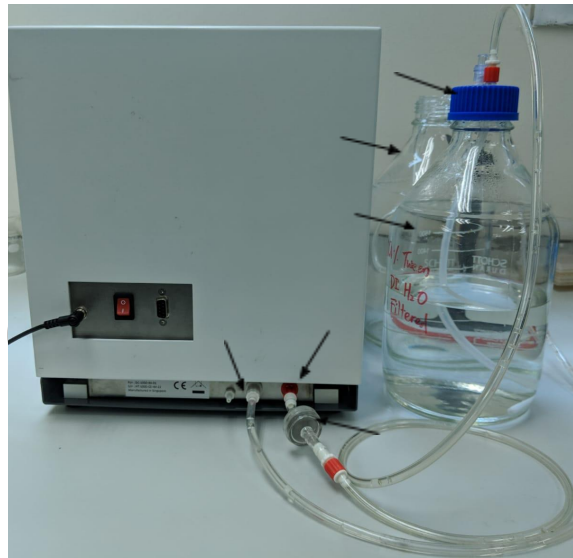

Figure 3-12: Installation Step 3.
16. Install a clean filter onto one end of the inlet tubing and insert into the red port on the HT2000. Insert the other end into wash buffer bottle via the buffer inlet bottle cap. Refer to Figure 3-12.
3. Ensure the two delivery tubes are properly connected into the respective ports (red and white) on the HT2000. A clean filter is installed into one end of the inlet tubing and inserted into the red port on the machine. The other ends of the tubes are connected to either the wash buffer bottle via the buffer inlet bottle cap (from red port) or the waste container (from white port). Refer to Figure 3-12.